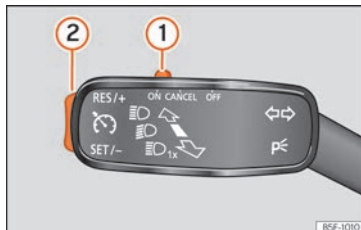

Fig. 223 On the turn signal lever: controls for operating the GRA.
- Move the control »»» **Fig. 223 ①** to **ON**.
- Press button »»» **Fig. 223 ②** in area **SET/-**.
- Move the control »»» **Fig. 223 ①** to **CANCEL** or step on the brake.
- Press button »»» **Fig. 223 ②** in area **RES/+**.
While the GRA is set, the stored speed can be adjusted with button »»» **Fig. 223 ②**:
- To increase in increments of 1 km/h (1 mph) briefly press button »»» **Fig. 223 ②** in the area **RES/+**.
- To increase the speed without interruption, keep button »»» **Fig. 223 ②** pressed down in the area **RES/+**.
- To reduce in increments of 1 km/h (1 mph) briefly press button »»» **Fig. 223 ②** in the area **SET/-**.
- To reduce the speed without interruption, keep button »»» **Fig. 223 ②** pressed down in the area **SET/-**.
- Move control »» Fig. 223 ① to **OFF**.